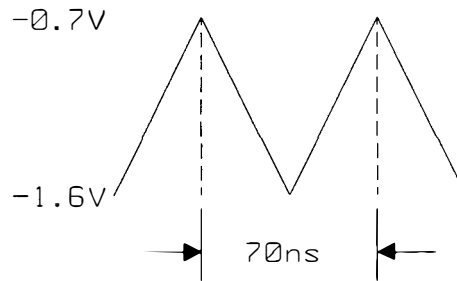

Figure 10.3-9. Period Generator ramp signal pin 20
2. Check the ramp signal at pin 20 of U200 against Figure 10.3-9.